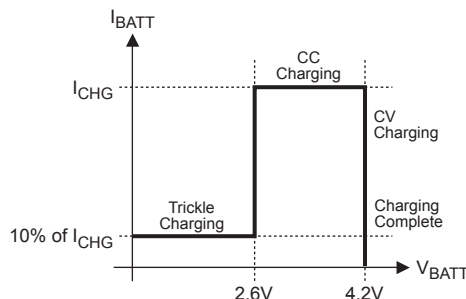

Figure 2—MP26053 Typical Charging Profile
Figure 2 shows the typical charging profile for the MP26053. For a fully depleted battery with a terminal voltage lower than 2.6V, the MP26053 will start with the trickle charge (preconditioning) at 10% of the full charge current based on the value of R_{CHG} . If the charger stays in trickle mode longer than 32768 cycles, $\overline{\text{CHG}}$ becomes high impedance, indicating a battery fault. After the battery voltage reaches 2.6V, the charger begins charging using the programmed charge current (I_{CHG}). This is referred to as Constant Current (CC) mode. Once the battery voltage reaches 4.2V, the charger will operate in the constant voltage (CV) mode until the battery is fully charged. The charge current drops during CV mode, and the battery full indication is set when the charge current is reduced to 10% of the programmed constant current value (I_{CHG}). The charge process is then terminated. Recharge will start after the battery voltage is reduced to 4.0V. After 262144 cycles of continuous charging, if the battery still has not reached 10% of the I_{CHG} condition, the on-chip timer will terminate the charger to prevent charging the dead battery excessively and the fault condition will be flagged by flashing the $\overline{\text{CHG}}$ LED.